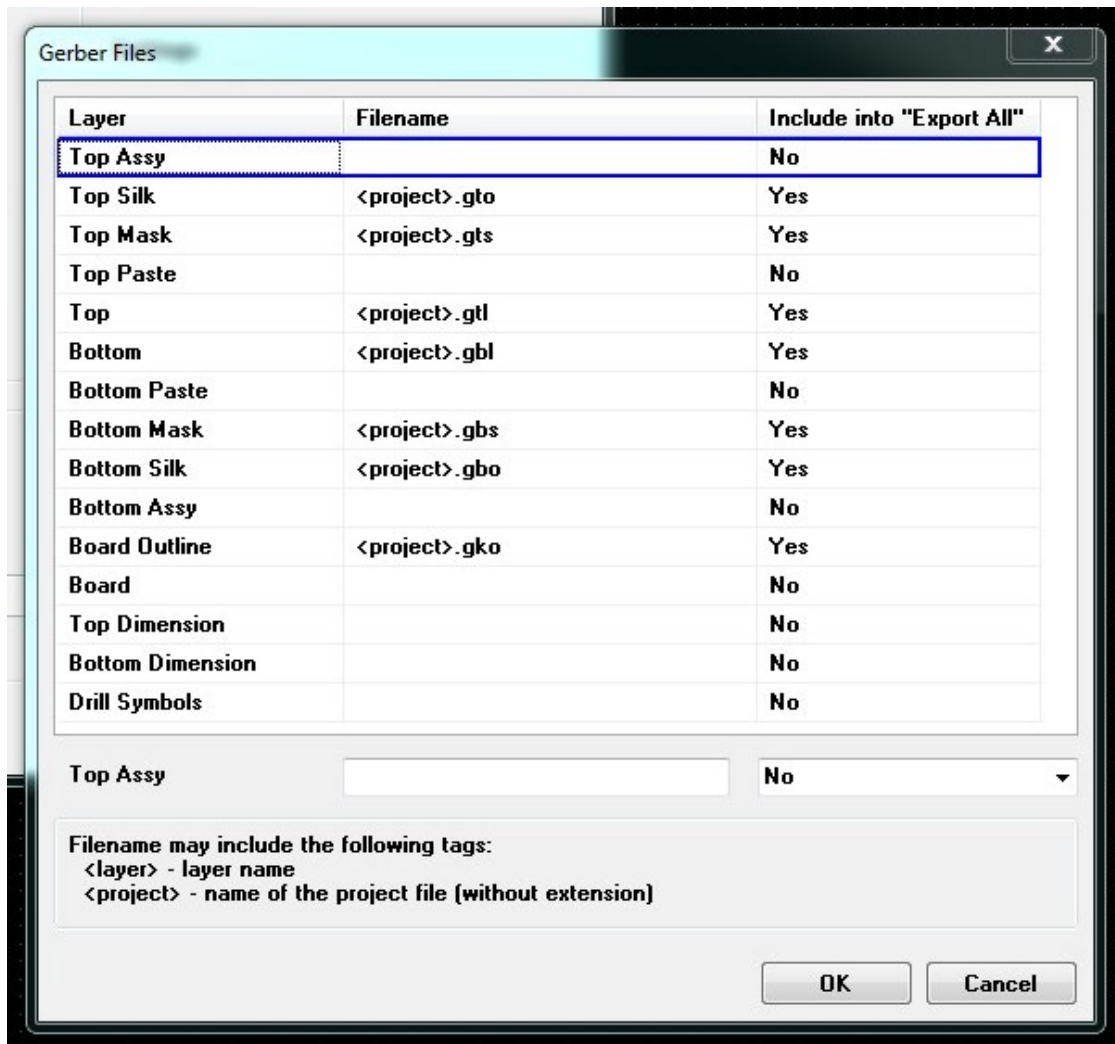

Fig. 1
- Please see Fig. 1 showing Gerber file output configuration. You will only need to do this once.